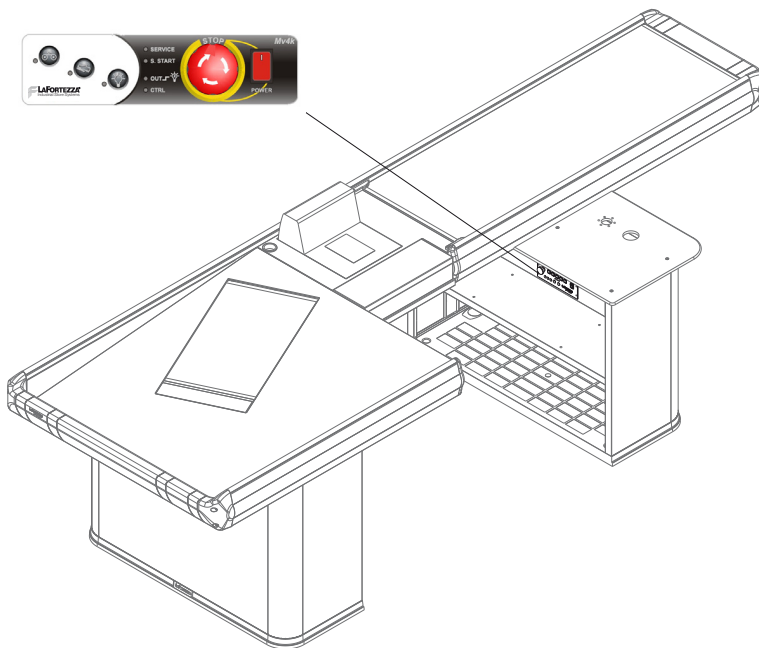

Fig. 3.8
The front panel (fig. 3.8) includes a socket for connection of a control pedal (A).